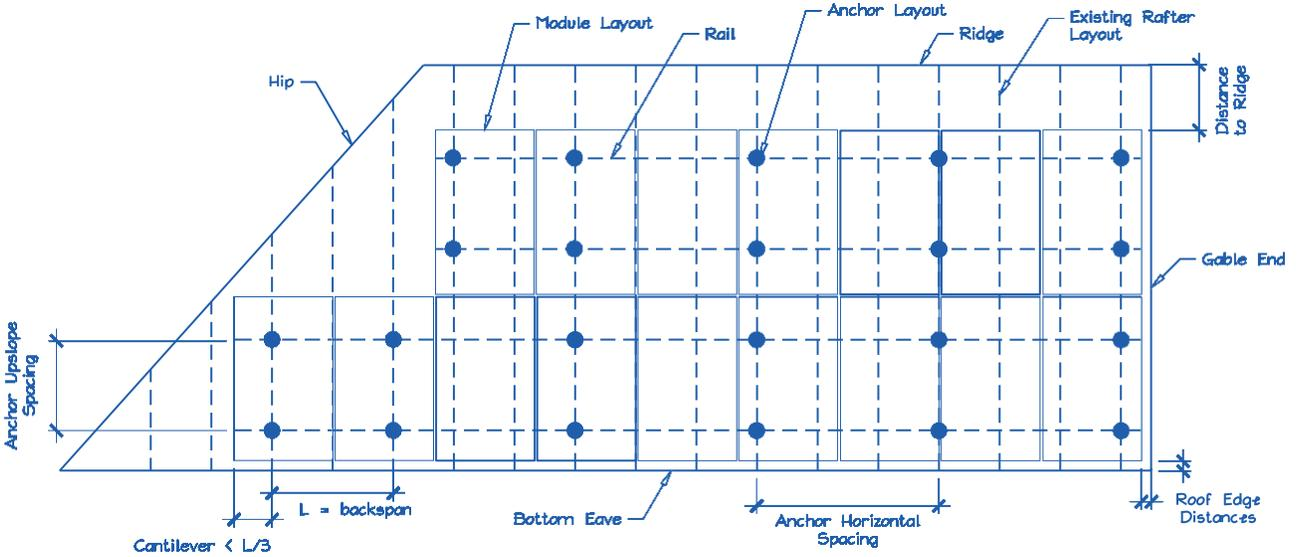

Figure 2. Sample Solar Panel Array and Anchor Layout Diagram (RoofPlan).
E. Is a roof plan of the module and anchor layout attached? (see Figure 2)
- 1) Proposed anchor horizontal spacing (see Figure 2): _____' - _____" ft-in
1. Anchors are also known as “stand-offs,” “feet,” “mounts” or “points of attachment.” Horizontal anchor spacing is also known as “cross-slope” or “east-west” anchor spacing (see Figure 2).